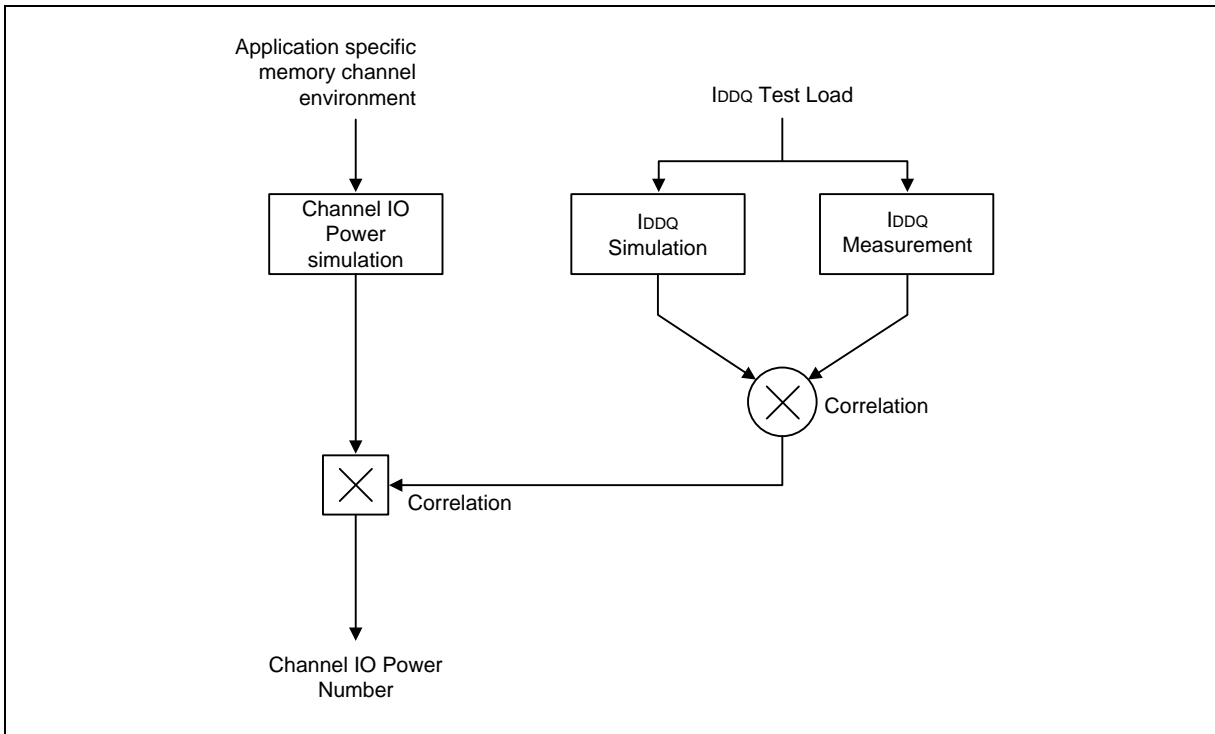

Figure 106 – Correlation from simulated Channel IO Power to actual Channel IO Power supported by IDDQ Measurement
**Attention: IDDQ values cannot be directly used to calculate IO power of the DDR3L SDRAM. They can be used to support correlation of simulated IO power to actual IO power as outlined in Figure 106. In DRAM module application, IDDQ cannot be measured separately since VDD and VDDQ are using one merged-power layer in Module PCB.**